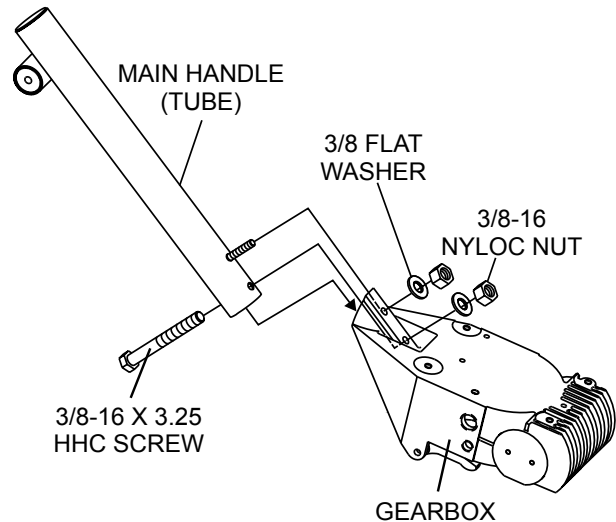

Figure 3. FXHS Handle Installation
1. Attach the main handle tube to the gearbox using the supplied hardware as shown in Figure 3.